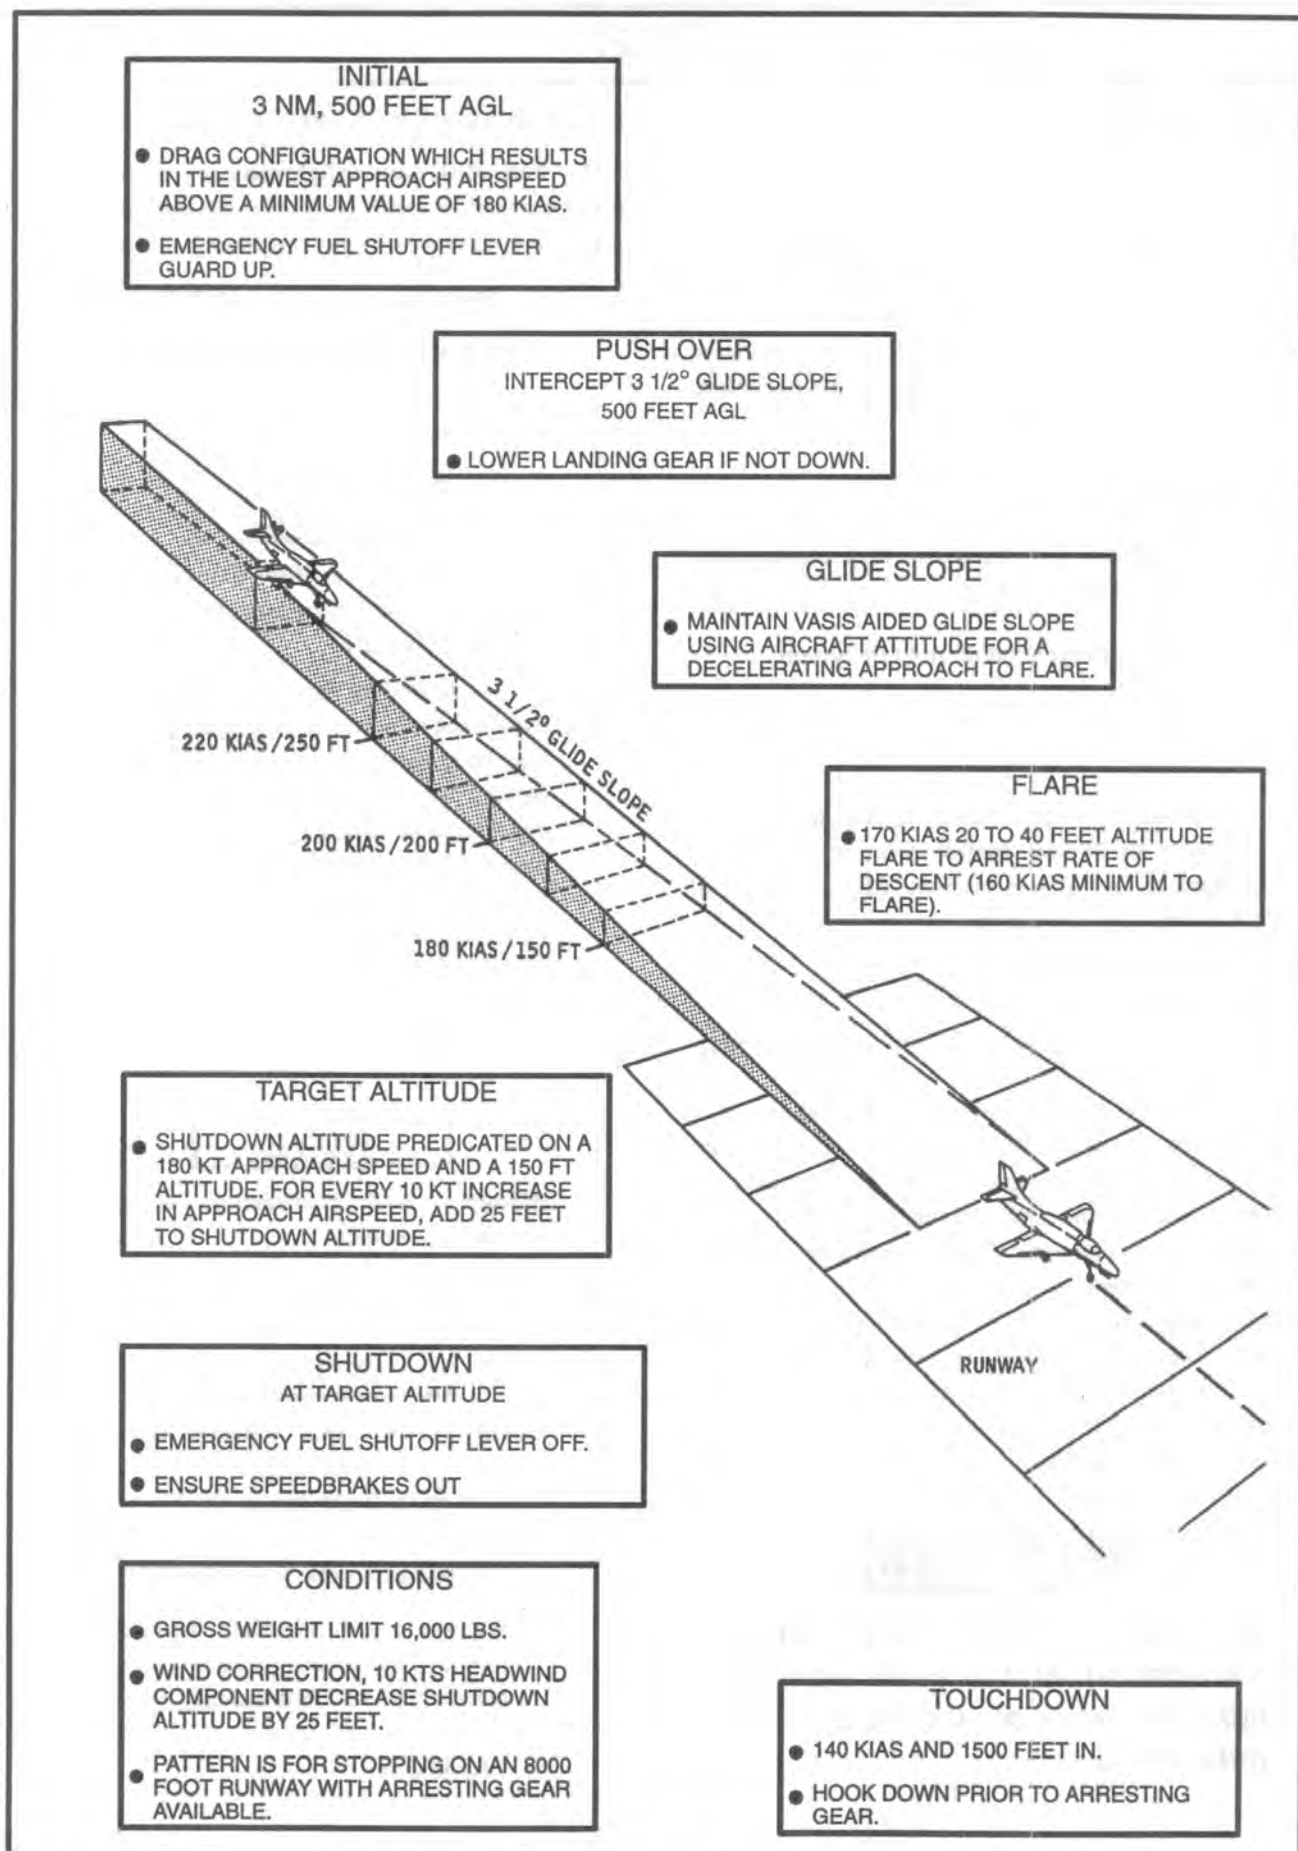

Figure 5-6 Stuck Throttle Approach (Sufficient Power for Level Flight)
5.63 The STA (Figure 5-6) should be used whenever it is impossible to change engine RPM. The aircraft needs to be